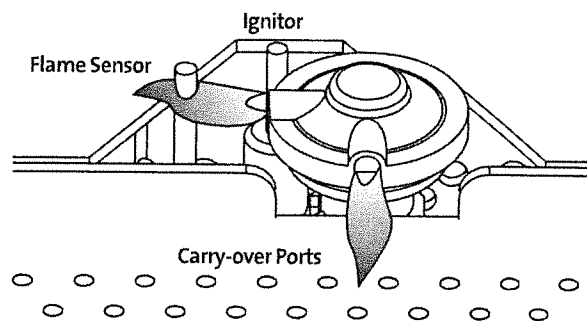

Figure 6.35 Correct Pilot flame pattern.
4. **PILOT FLAME:** The pilot flame should be steady -not lifting or floating. The flame should be blue in color around the pilot hood, with traces of yellow toward the outer edges. It is important that the pilot flame engulf the top 1/8" of the flame sensor. The pilot flame should project out of the pilot hood 1" from both ports extending to reach the burner plate ports. See fig. 6.35. The pilot flame can be tuned by turning the adjustment screw located on the front of the valve. See fig. 6.4.